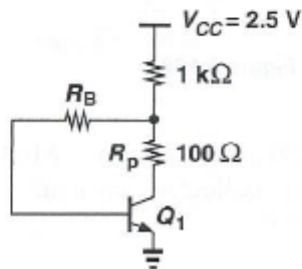

Figure 5.119
- 5.20. The circuit of Fig. 5.119 must be biased with a collector current of 1 mA. Compute the required value of  $R_B$  if  $I_S = 3 \times 10^{-16}$  A,  $\beta = 100$ , and  $V_A = \infty$ .